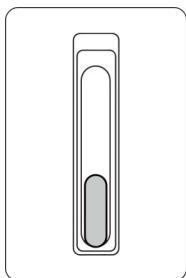

Figure.1
1. The door of the cabinet is in locked state.See the Figure.1